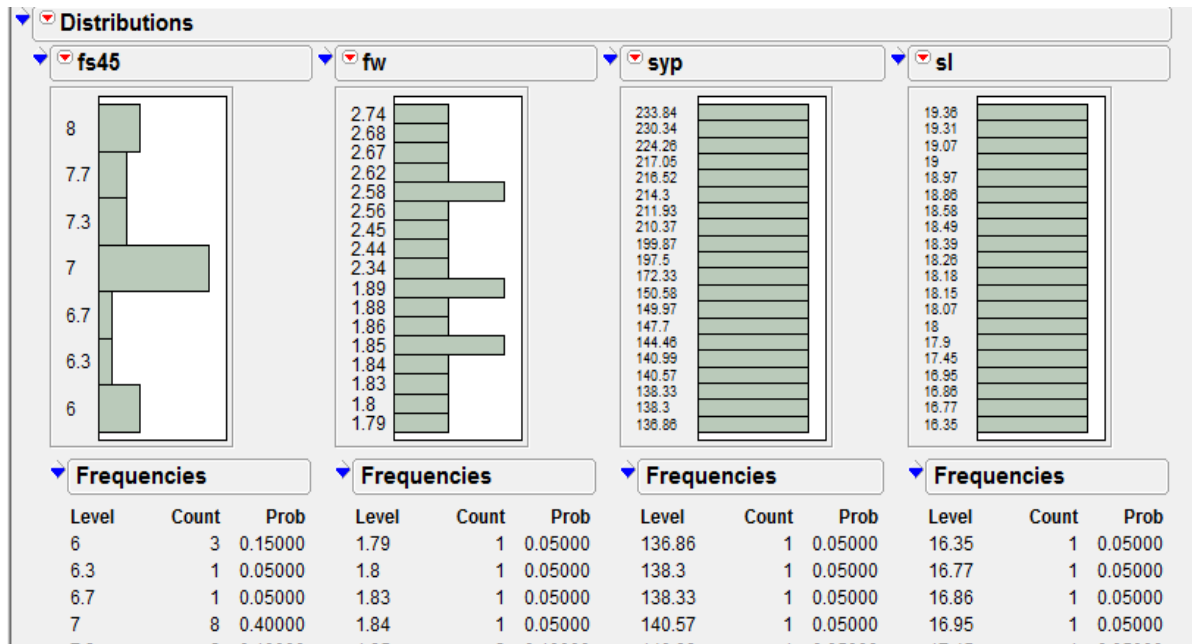

Figure 5.1.3: Discrete Frequency Table Output
6. For Question 4, First change the scale of variables fs45, sw and syp from continuous to either nominal or ordinal. Go to **Analyze** → **Distribution**. Select all the characters fs45, sw, syp and sl from **Select Columns** → **Y, Columns** → **OK**. See the output in Figure 5.1.3